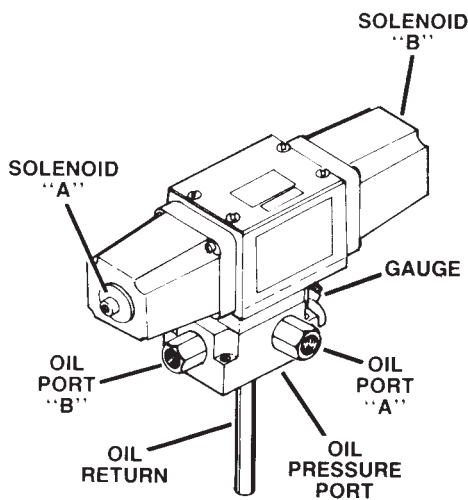

FIGURE 1
The hydraulic hoses from the hydraulic pump are connected to the pressure and return ports located on the side or the back of the valve (see Figure 1 and 2).
3. Attach all hoses and wiring required to complete the set-up. Refer to Figure 1 for valve port information.